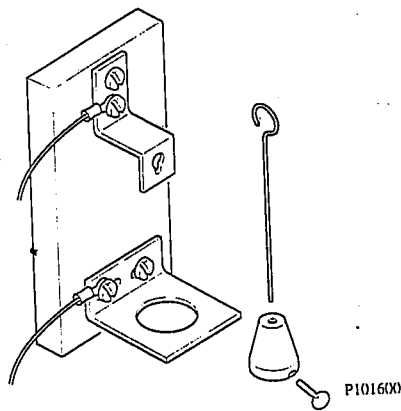

FIGURE 11: PLUMB BOB TILT ASSEMBLY
21) Locate plumb bob parts. Install thumbscrew into threaded hole on lead weight. Insert hook wire into tapered end of lead weight. Raise wire & weight up into bottom tilt bracket and hang from top bracket. Adjust and tighten screw firmly (see Figure 11).